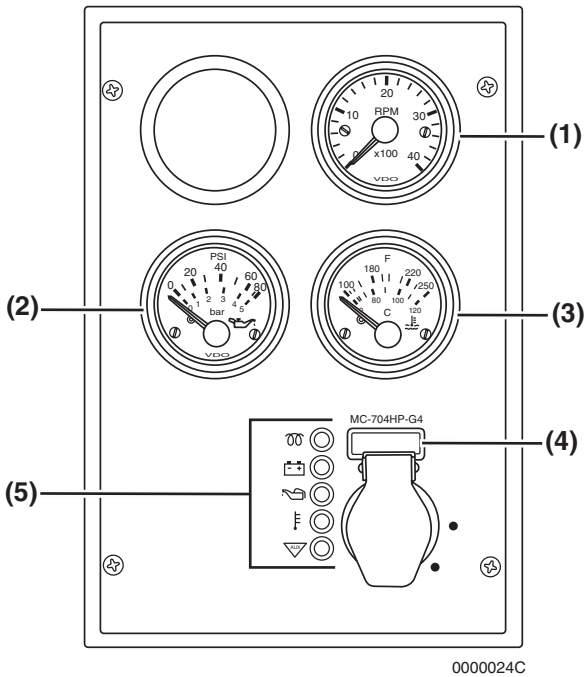
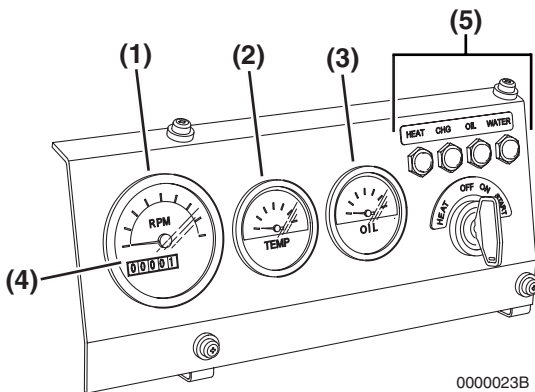

Figure 4
Figure 5
1. While the engine is running, check the gauges for normal indications. The gauges shown in **Figure 4** and **Figure 5** are provided for illustrative purposes only.
- **Tachometer - (Figure 4, (1)) or (Figure 5, (1))** Make sure the engine speed is within normal limits. See *Engine Speed Specifications* on page 106.
- **Engine Oil Pressure - (Figure 4, (2)) or (Figure 5, (3))** Make sure the engine oil pressure is within normal limits. See *Normal Oil Pressure specifications for your specific engine in the Principal Engine Specifications in the rear of this Operation Manual.*
- **Engine Coolant Temperature - (Figure 4, (3)) or (Figure 5, (2))** Make sure the engine coolant temperature is within normal limits.
- **Hour Meter -** The hour meter display **(Figure 4, (4)) or (Figure 5, (4))** shows the total number of hours the engine has run. This is useful for planning periodic maintenance operations. See *Periodic Maintenance Schedule* on page 73.
2. After the engine has reached operating temperature, all of the indicators **(Figure 4, (5)) or (Figure 5, (5))** should be Off. If any of the indicators are On, shut down the engine and have the necessary repairs performed.